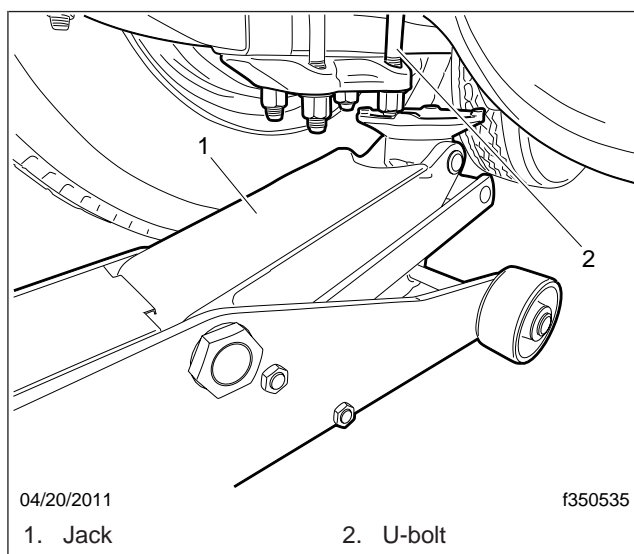
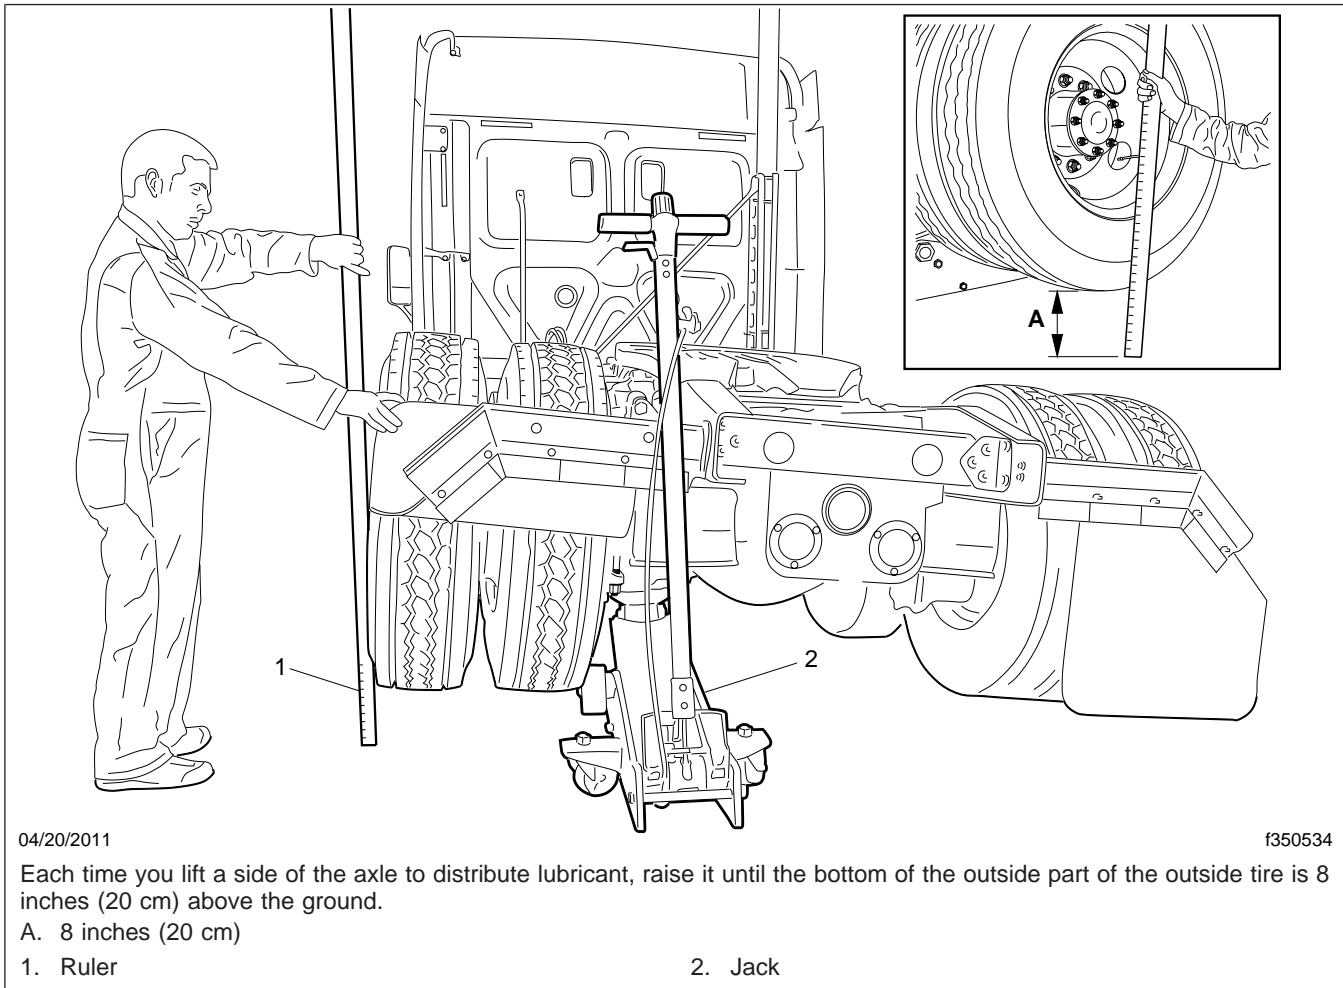

Fig. 6, Axle Lifted at Leaf Spring U-bolt
Fig. 7, Distributing Lubricant from Carrier Housing to Wheel Bearings
4. To tilt the axle, position a suitable jack at a leaf spring U-bolt, and raise it until the bottom of the outside part of the outside tire is 8 inches (20 cm) above the ground. See Fig. 6 and Fig. 7.